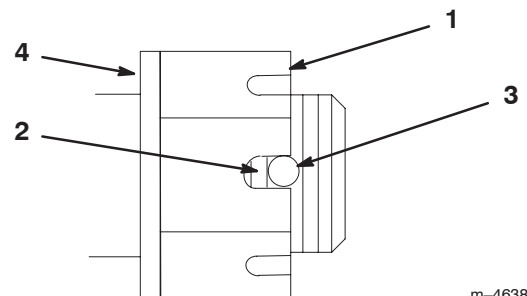

Figure 51
4. Torque the slotted nut to 125 ft-lb (170 N·m) (Fig. 51).
5. Check the distance from bottom of slot in nut to inside edge of hole. Two threads or less should be showing (Fig. 51).
6. If more than two threads are showing remove nut and install washer between hub and nut (Fig. 51).
7. Torque the slotted nut to 125 ft-lb. (170 N·m) (Fig. 51).
8. Tighten nut until the next set of slots line up with the hole in the shaft (Fig. 51).